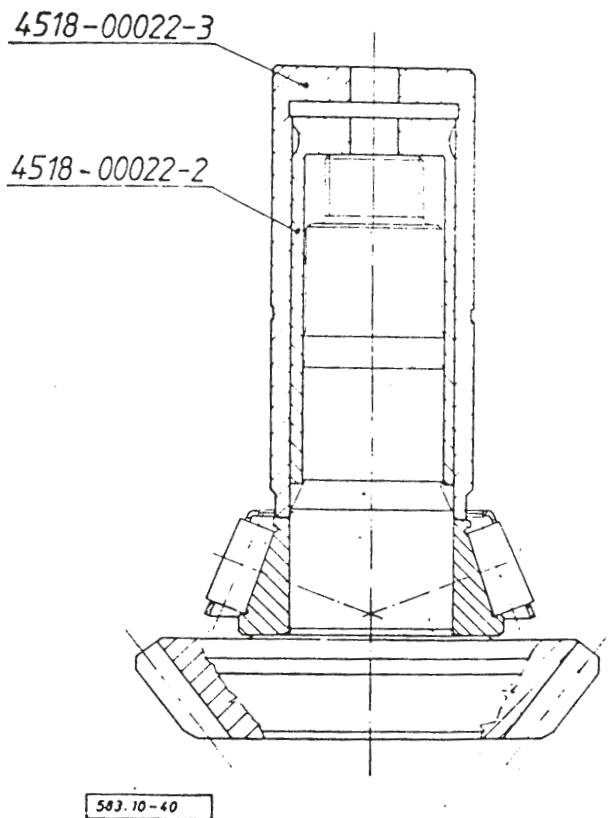

Fig. 8.: DRIVING ON THE INNER TAPER ROLLER BEARING CONE
inner taper roller bearing (12) onto the drive pin (Fig. 8.).